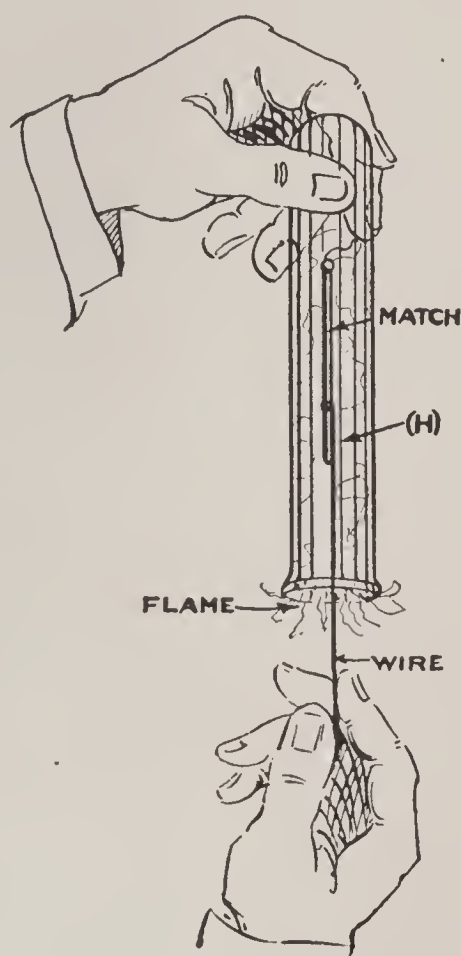

FIG. 83.—The Match is Extinguished.
Twist a wire around a match and light it. Now take another test tube of hydrogen (H), hold it mouth downward as before, quickly push the lighted match up to the top of the tube, as in Fig. 83, and it will go out, though